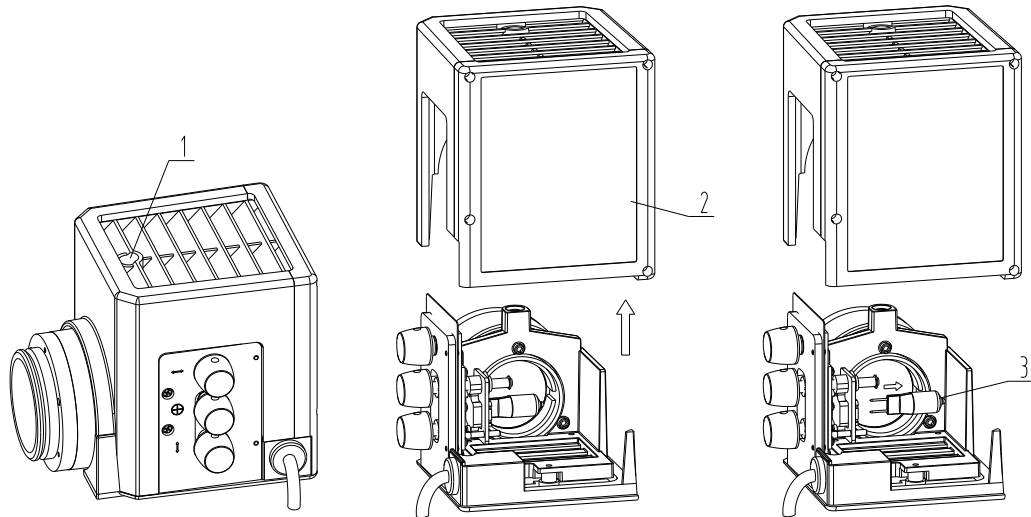

Figure-1 Replace Bulb
2. Before replacing the lamp, first turn off power switch at off position **O**, and unplug it in case of electric shock and burn. The power supply must be cut off before bulb replacement. If microscope is in use or after use, the bulb and lamp house must be cooled off completely before proceeding, please see **Figure-1**, Loosening screw 1, pulling out lamp shade 2, and replace broken bulb with required bulb 3.